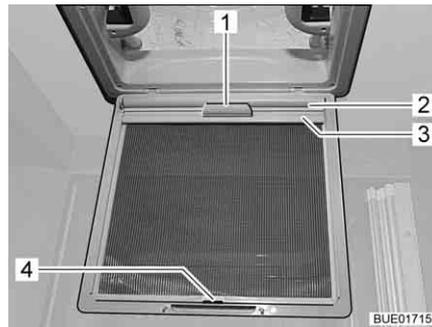

Fig. 131 Blind
- Using the handle (Fig. 131,1), pull out the blind (Fig. 131,2) and hook the retainer (Fig. 131,3) into the hook (Fig. 131,4) on the insect screen.
- Release the retainer (Fig. 131,3) from the hook (Fig. 131,4) and, using the handle (Fig. 131,1), slowly return the blind (Fig. 131,2).